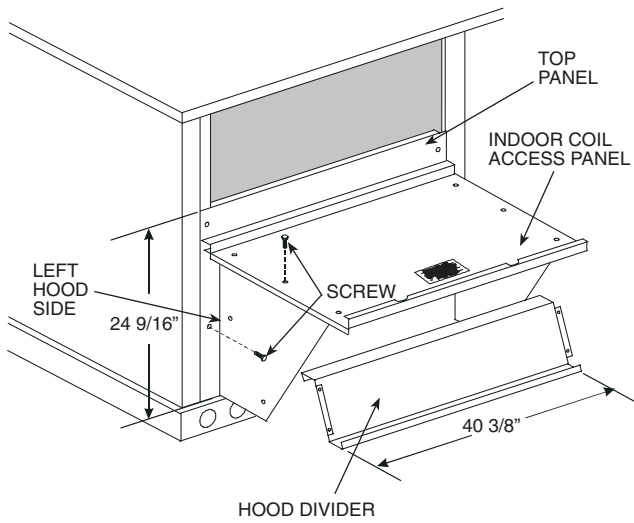

Fig. 23 — Outdoor-Air Hood Construction
- Swing out indoor coil access panel and insert the hood sides under the panel (hood top). Use the screws provided to attach the hood sides to the hood top. Use screws provided to attach the hood sides to the unit. See Fig. 23.
- Insert the hood divider between the hood sides. See Fig. 23 and 24. Secure hood divider with 2 screws on each hood side. The hood divider is also used as the bottom filter rack for the aluminum filter.